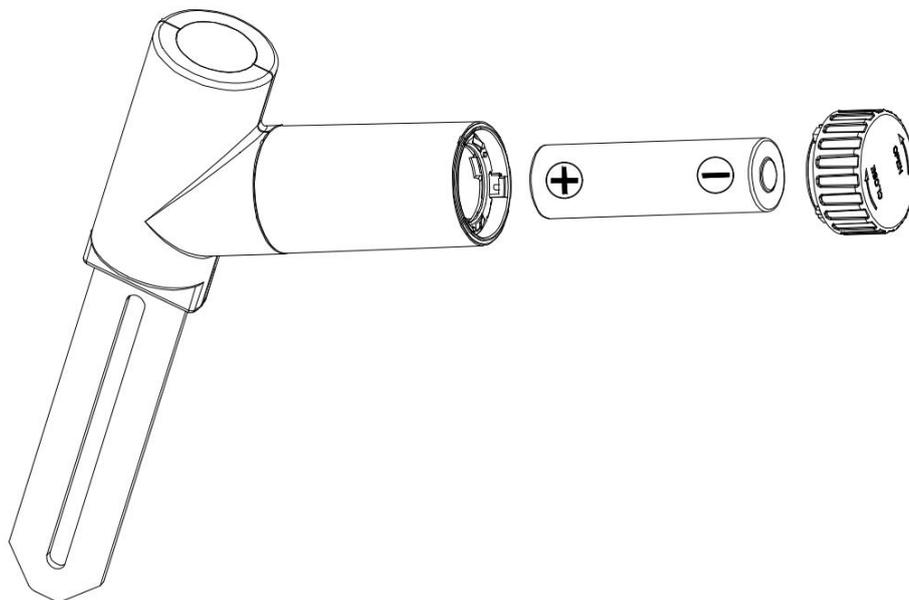

Figure 4
1. Insert one AA battery into the battery compartment, like the Figure 4.